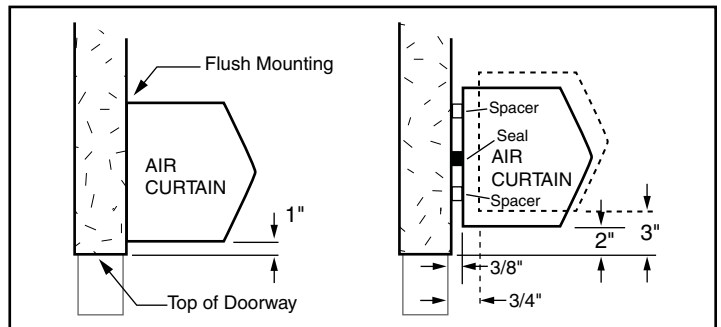

Figure 3
- B. For optimum performance, the bottom of the air curtain (discharge nozzle) should be no more than 1" above the top of the door opening with the air curtain(s) mounted flush to the wall. If the air curtain must be mounted higher, it must be spaced out from the wall 3/8" for every inch the air curtain is above the door opening. See Figure 3. For optimum protection, any void between the air curtain and the wall should be sealed along the full length of the air curtain.